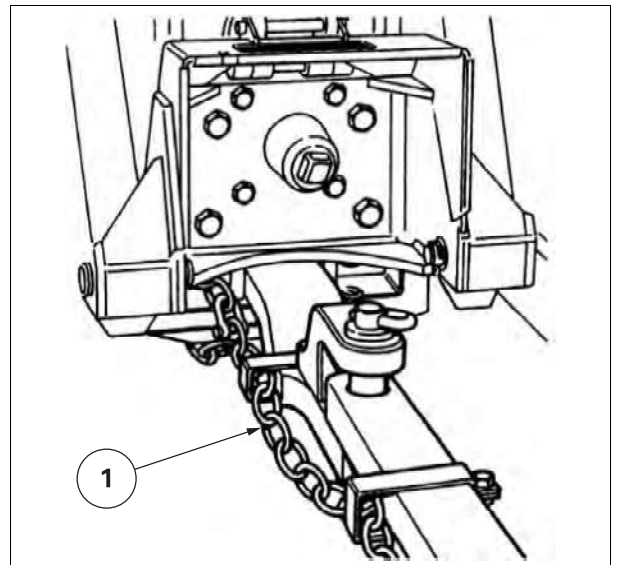

Fig. 8.
- All trailed implements and trailers should be connected to the tractor with a safety chain (1) .fig. 8